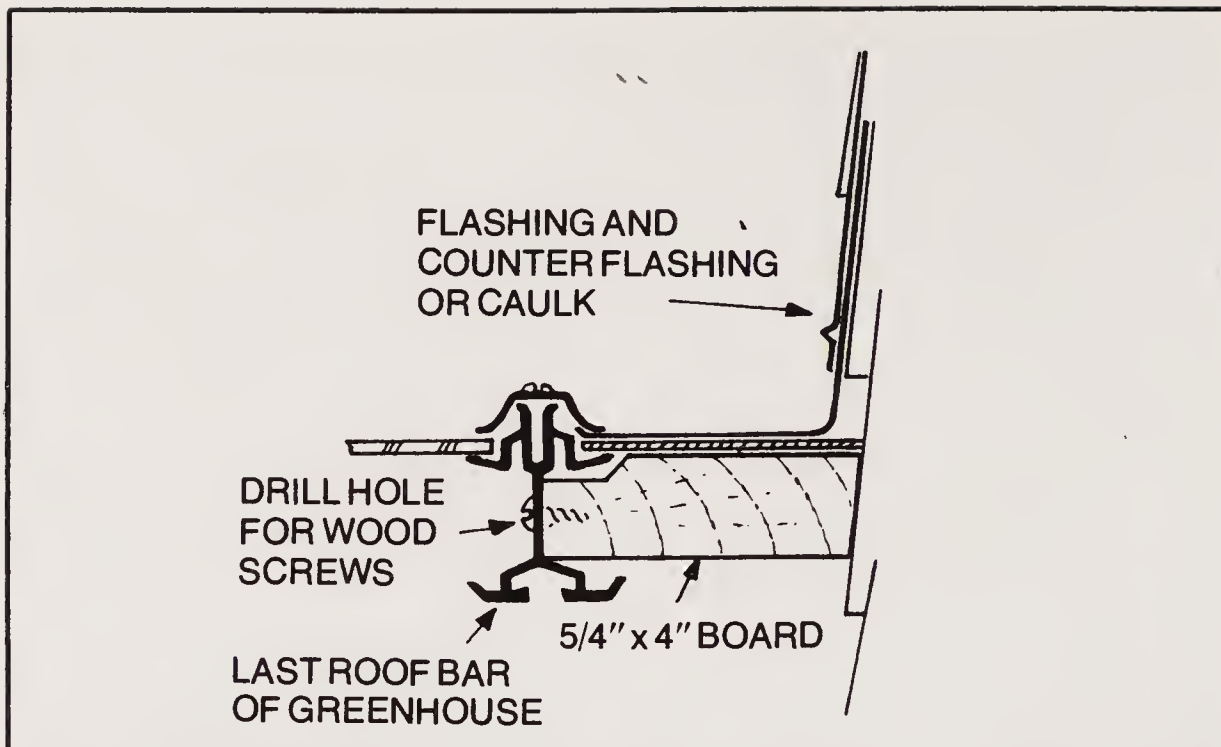

Fig. 2-125. Detail flashing for greenhouse attached to another building (courtesy of Lord & Burnham Co.).
- ☐ Fill in between the building and the last aluminum bar of the greenhouse with 1 x 4 boards. "Scribe" these to fit neatly to face of building; then caulk or install flashing to keep out rain (Fig. 2-125).